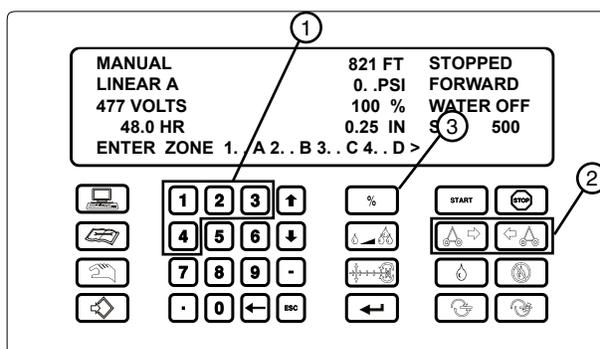

Figure 80-2 1. Numeric Keys 2. Direction Keys 3. Percent Key
Select a Zone 1=A, 2=B, 3=C 4=D. See Figure 80-2.
5. Select the direction of movement for the span to pivot. See Figure 80-2.
6. Press  to set the percent timer to the desired percentage. See Figure 80-2.